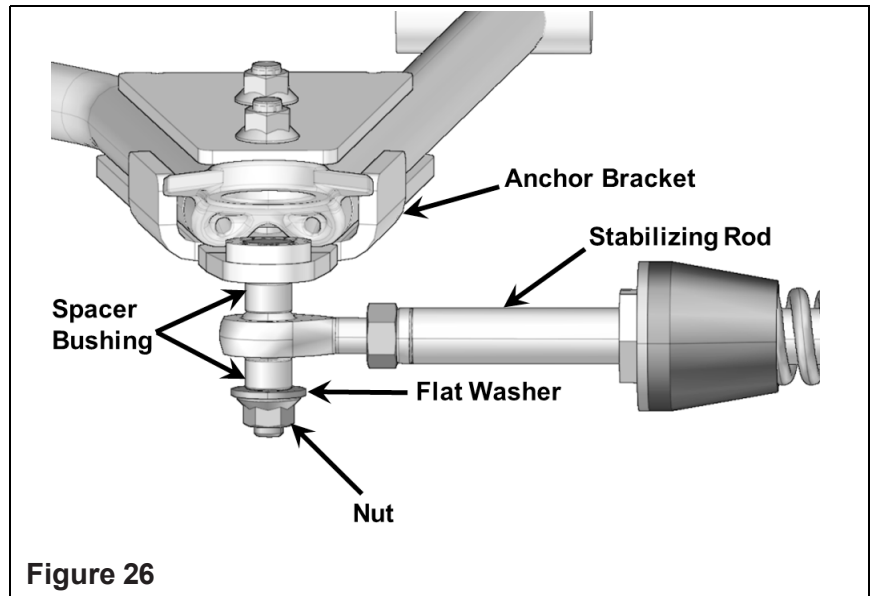

Figure 26
14. Attach the stabilizing rod to the anchor bracket, using the two spacer bushings, flat washer and nut. Torque to 52 ft. lbs. (70 Nm). Figure 26.